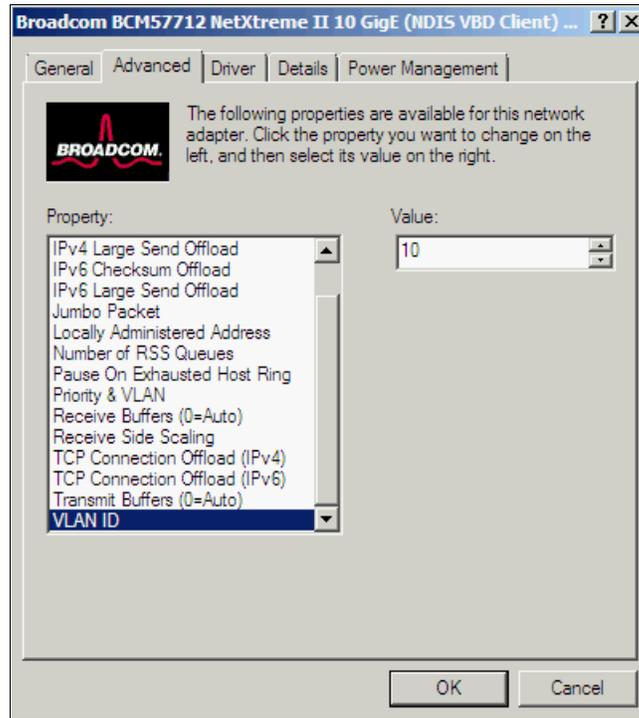
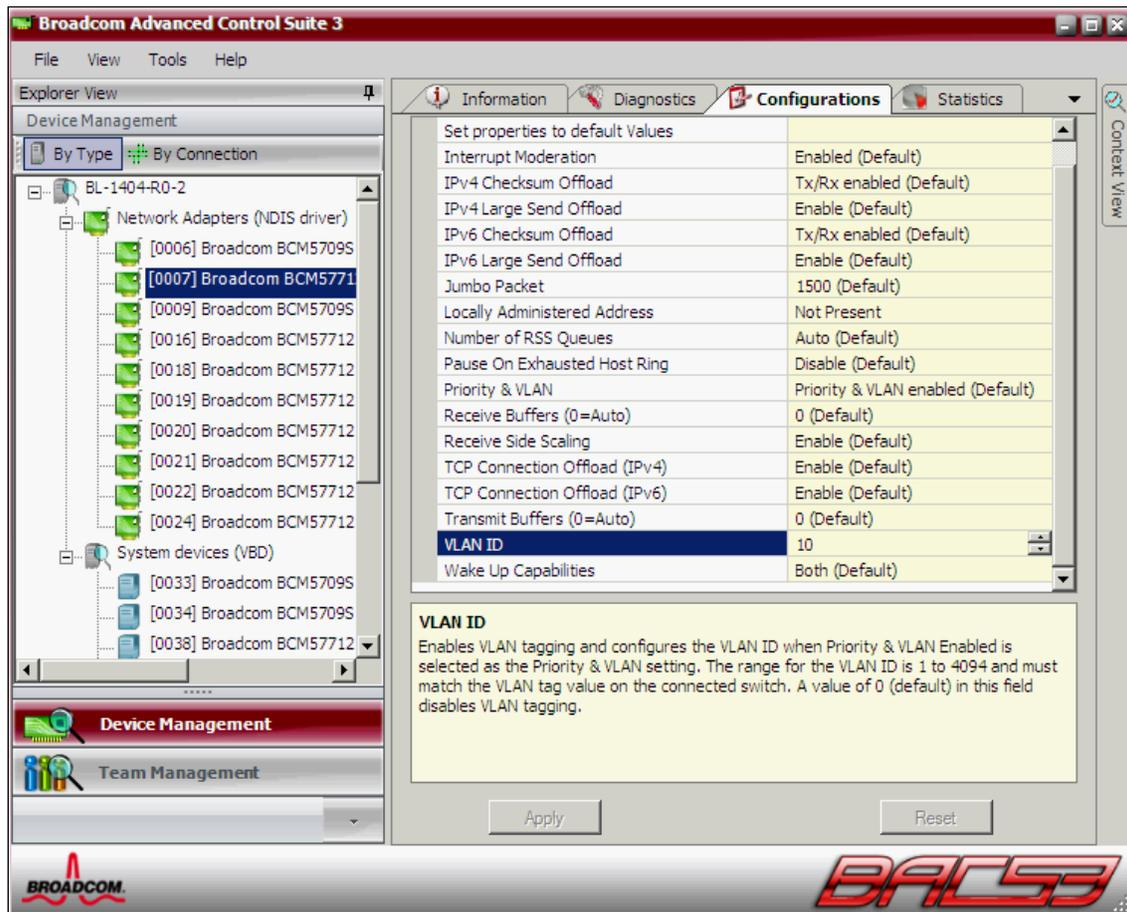

Figure 10-25 VLAN ID configuration
Figure 10-27 Configuration tab in Broadcom Advanced Control Suite
3. On the **Advanced** tab (Figure 10-25), configure NIC settings, such as the VLAN ID. In this example, we set the VLAN ID to 10. Click **OK** to save your changes.
On the **Configurations** tab, you can check and set NIC parameters (Figure 10-27). Notice that VLAN ID is highlighted and is set to 10 (as we set it in Figure 10-25 on page 267). You can use Broadcom Advanced Control Suite to configure the VLAN ID to a different value or to change any other parameter.